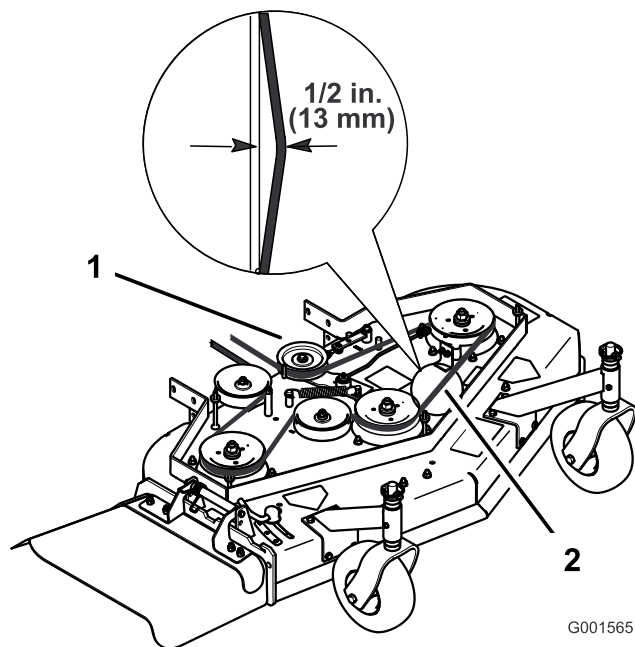

Figure 38
4. Remove the idler pulley and the worn belt (Figure 38).
Note: The proper mower belt tension is 10-15 lbf. (44-67 N) with the belt deflected 1/2 inch (13 mm) halfway between the pulleys (Figure 38).